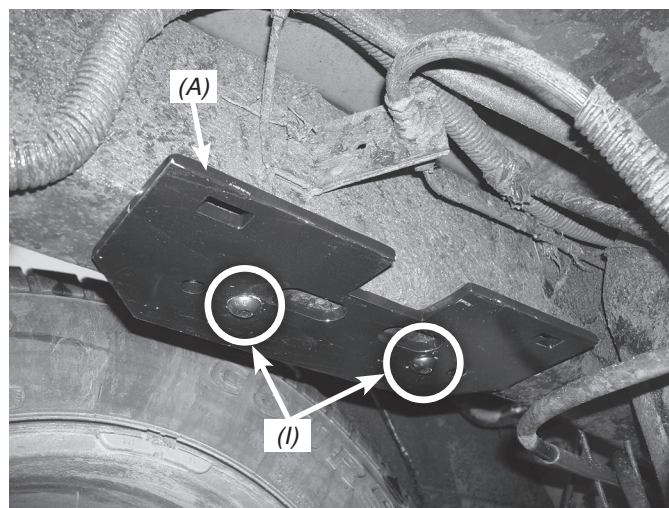

fig. 4
*The slot in the frame goes inboard towards the inside of the vehicle (Fig. 4). Repeat for the opposite side.*